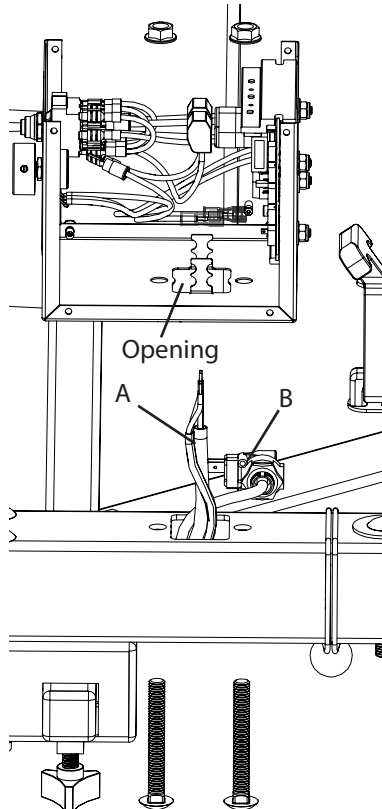

Figure 7: Installing the new speed control/switch box.
- Feed motor harnesses (A) and foot switch (B) up through the opening in the base of the new speed control/switch box.
- Bolt the new speed control/switch box to the frame rail. (Figure 7)